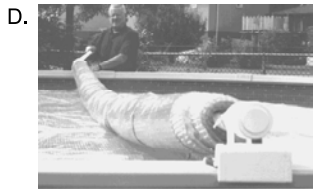

Fig. 12
- The Surface Rider is *designed* to bow (see Fig. 12). The cover and the reel is supported by the buoyancy of the water during rolling.